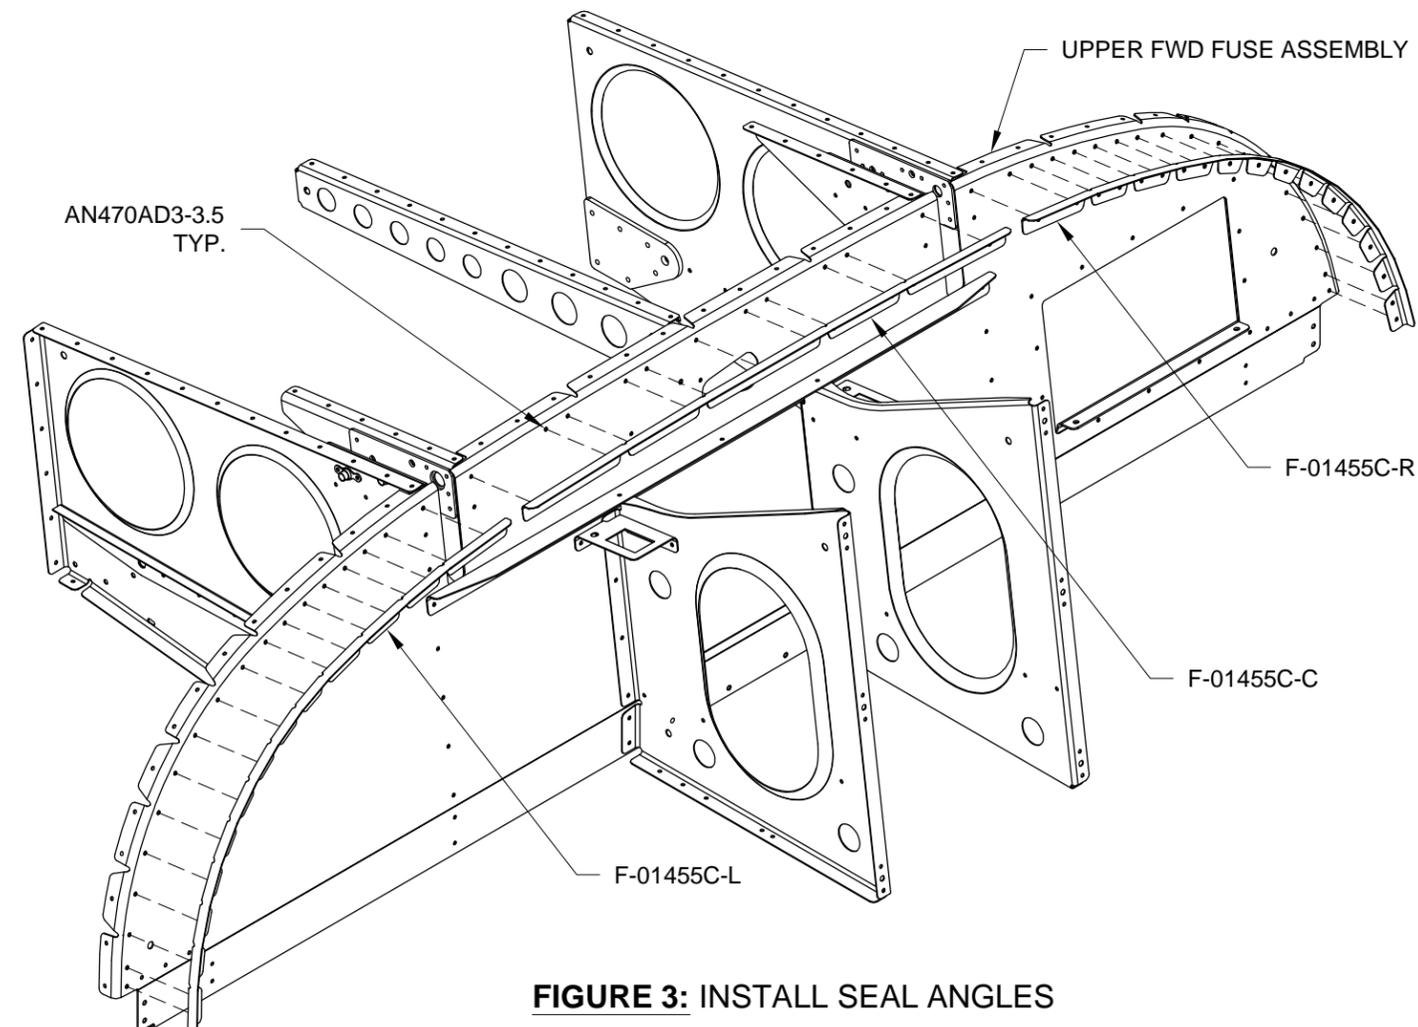

FIGURE 3: INSTALL SEAL ANGLES
Step 5: Cleco then rivet the F-01455C-C, -L, & -R Seal Angles to the Upper Fwd Fuse Assembly as shown in Figure 3.